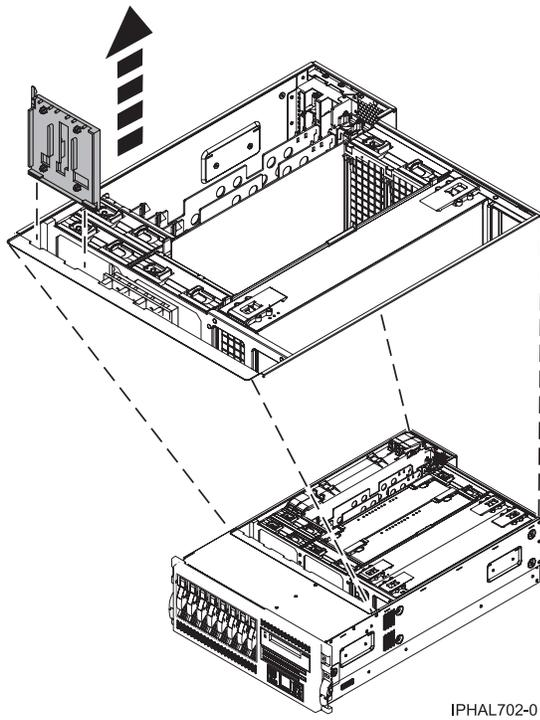
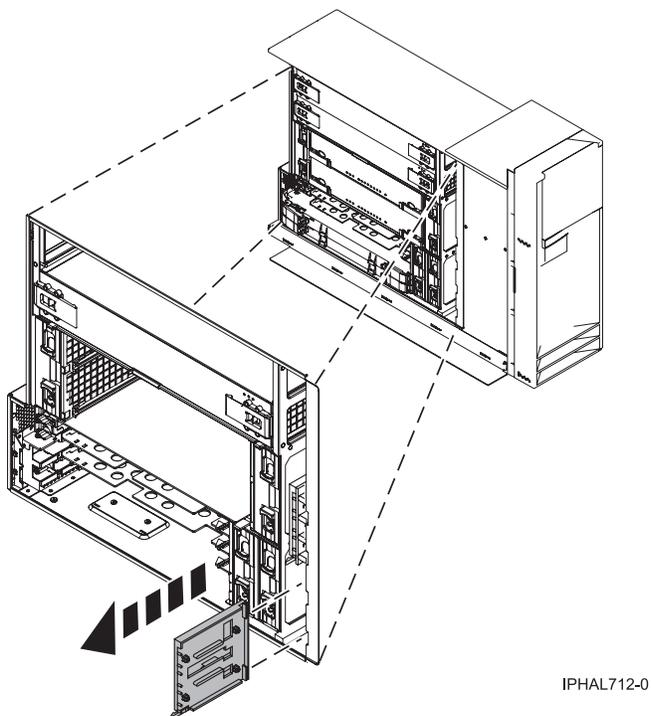

Figure 112. Removing a disk-drive backplane filler from a rack-mounted system unit
Figure 113. Removing a disk-drive backplane filler from a stand-alone system unit
1. If necessary, remove the disk-drive backplane filler from the slot in the system you want to use, as shown in Figure 112 on page 115 or Figure 113 on page 115.